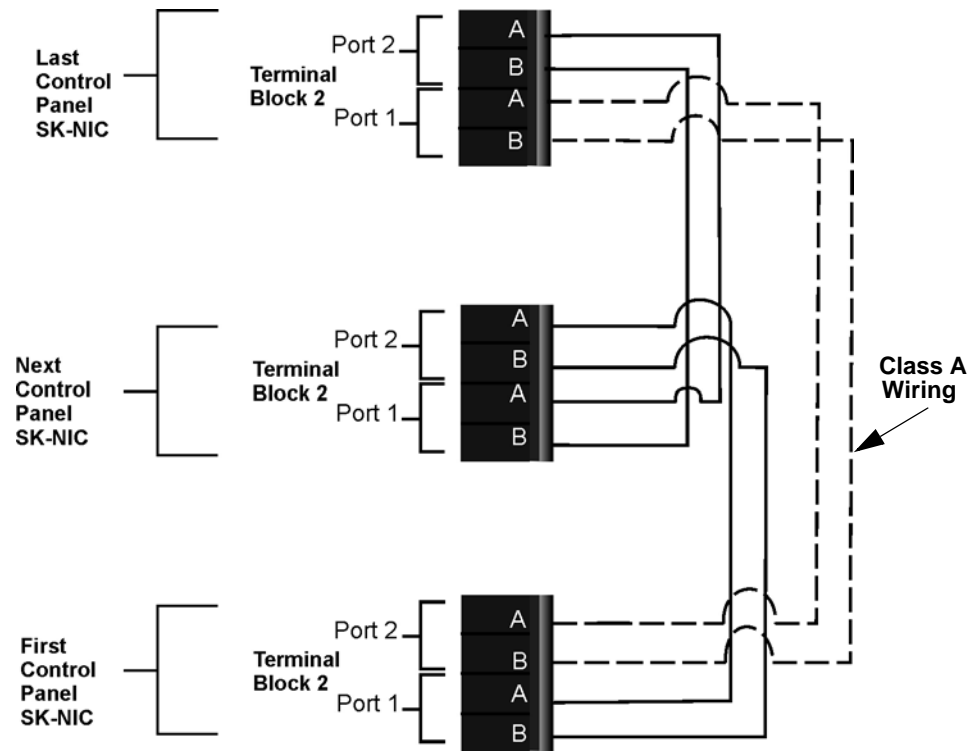
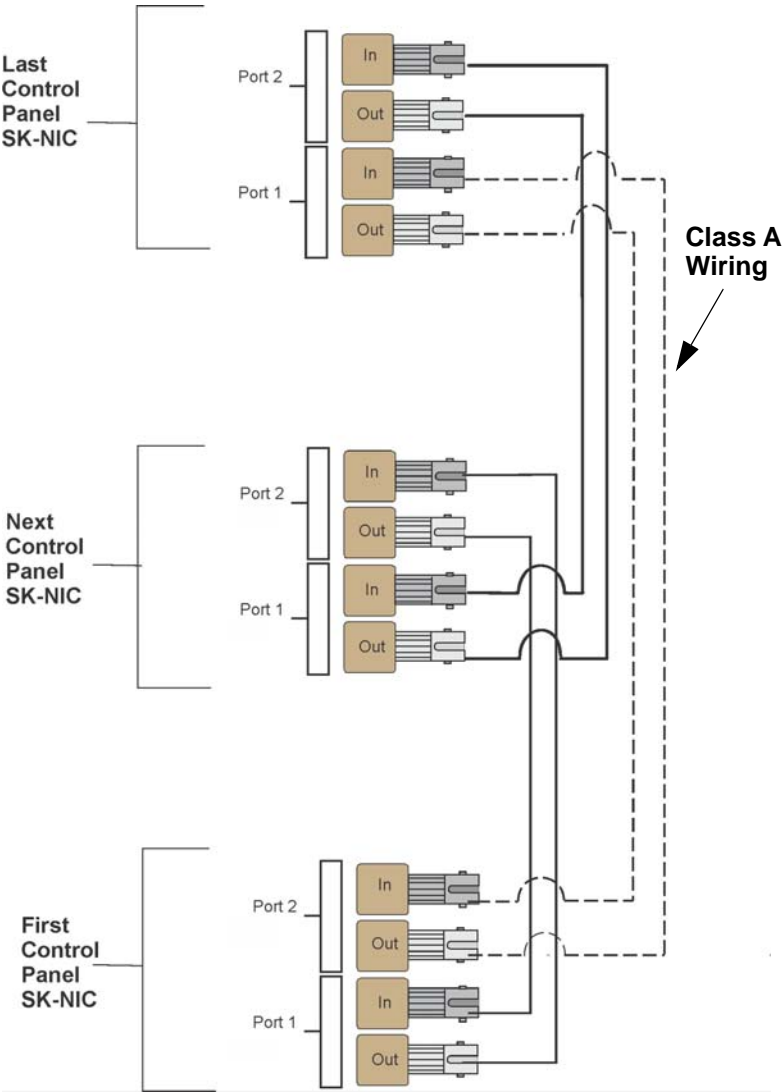
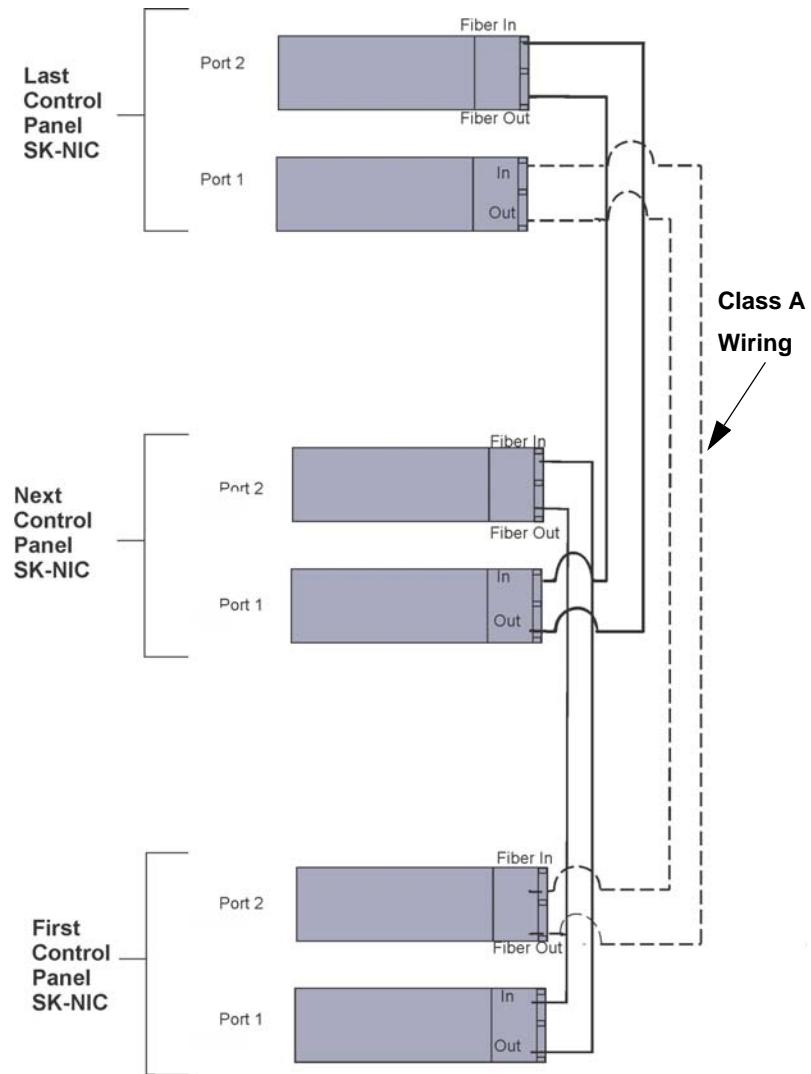

Figure 5.7 Twisted Pair Wiring Configuration
Figure 5.8 Fiber Optic Wiring Example
Figure 5.9 Fiber Optic Wiring Single-Mode Example
5. Based on the type of data medium chosen, run the twisted pair wiring/fiber optic cable to the next SK-NIC using a class B or class A wiring method. A combination of both medium types can be used. See Figure 5.7, Figure 5.8, Figure 5.9, and Figure 5.10 for SK-NIC wiring examples.
Unshielded twisted pair wiring between multiple panels is shown in Figure 5.7. Class A wiring is shown with a dotted line.
Fiber optic cable between multiple panels is shown in Figure 5.8. Class A is shown with a dotted line.